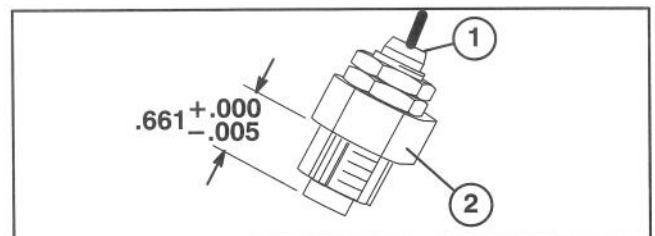

Figure 16
3. Thread reel speed sensor (Fig. 16 & 17) into sensor holder until dimension shown in figure 16, is attained. Lock adjustment with (2) jam nuts.